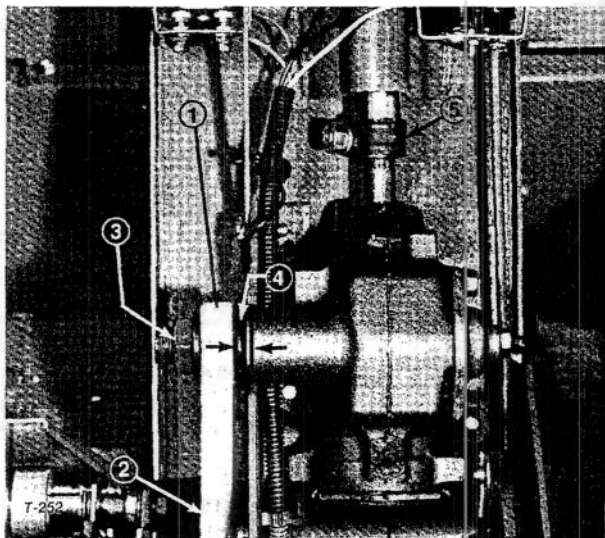

Figure 44
2. Mark steering arm and steering gear shaft (Fig. 44) so arm can be installed in the same place when parts are assembled.
3. Remove cotter pin and slotted nut holding steering control rod and steering arm together (Fig. 44). Separate ball socket at end of control rod from steering arm.
4. Remove large nut and lockwasher holding steering arm on gear box shaft (Fig. 44). Use a puller to remove the arm from the shaft.
5. Loosen steering-clamp carriage bolt and locknut (Fig. 44) until clamp can be moved.
3. Slide steering arm onto steering shaft and ensure the alignment marks — made when parts were removed — are in line. Secure arm on shaft with lockwasher and large nut (Fig. 44). Tighten nut until inside of arm is 5/8 in. (16 mm) from the steering gear, which should allow clearance for the steering linkage.
4. Slide ball socket at end of steering control rod through steering arm. Secure parts together with slotted nut and cotter pin (Fig. 44).